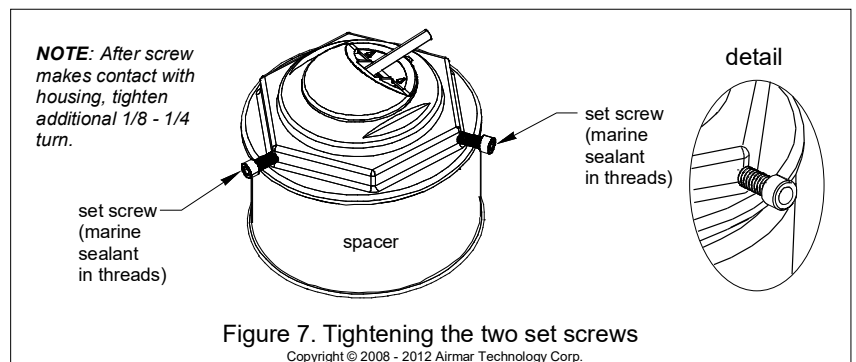

Figure 7. Tightening the two set screws
4. **Secure the hull nut with the two set screws supplied** (Figure 7). Apply marine sealant to the threads of the set screws. Using an Allen wrench, tighten each set screw until it makes contact with the housing threads. Continue to tighten an additional 1/8 to 1/4 turn. This will hold the hull nut firmly in place. *Failure to do so may allow the hull nut to vibrate loose.*